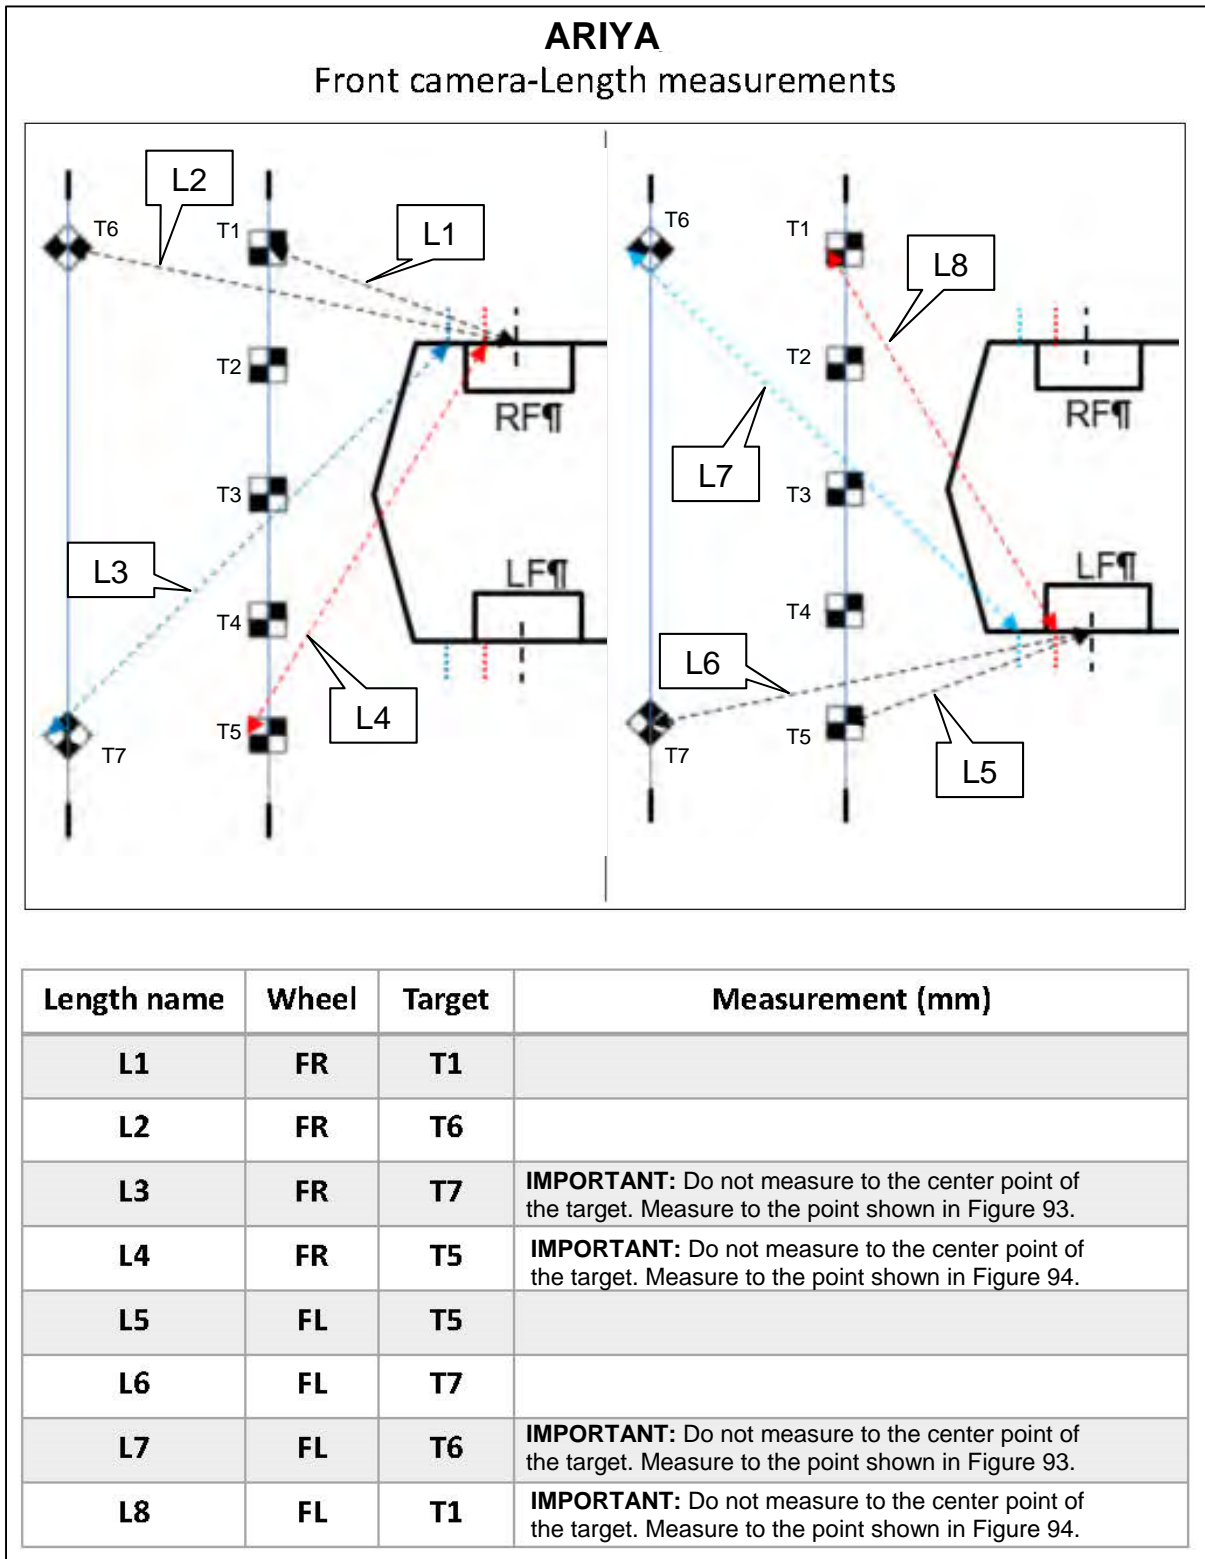
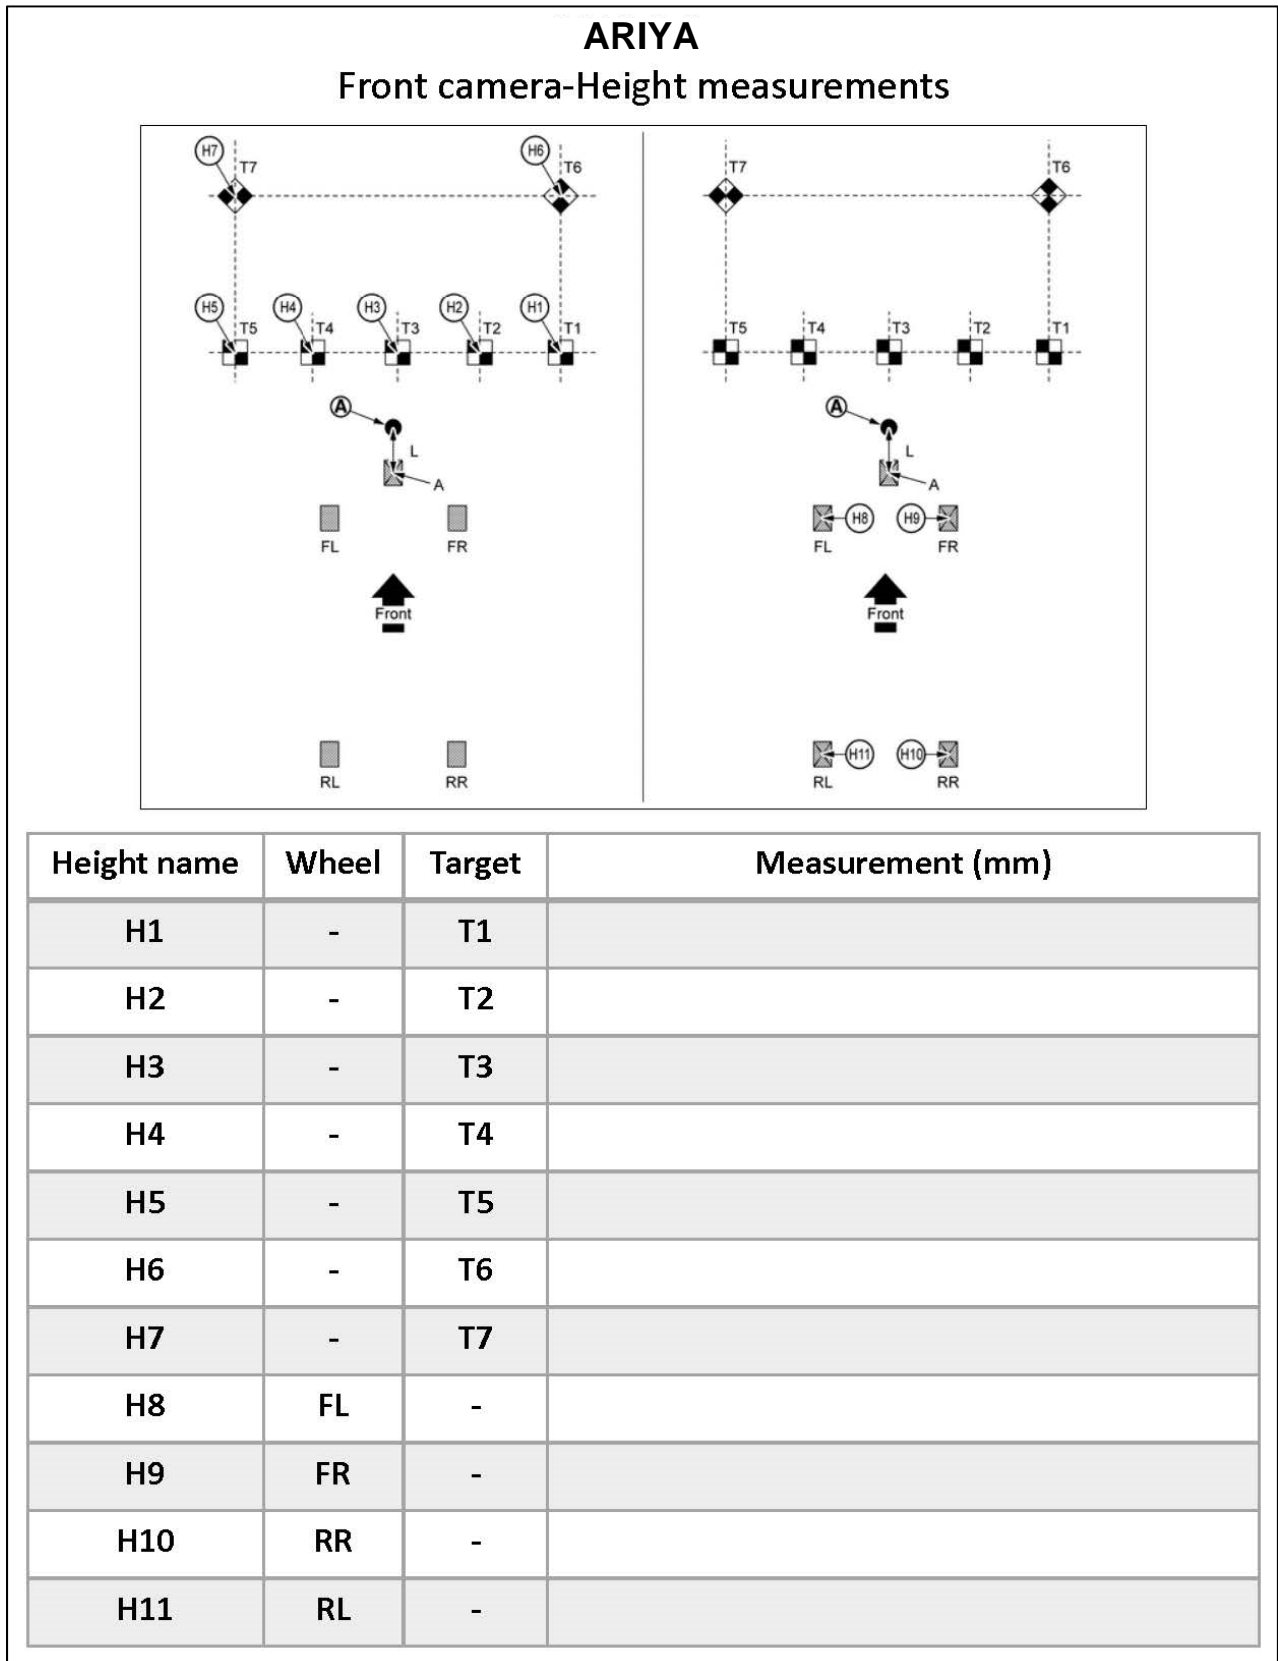

Figure 113
Figure 114
IMPORTANT: All measurements must be in millimeters (mm). Refer to the illustrations in Figure 113 and Figure 114 to ensure the correct measurement is documented in the correct order and for each calibration target.
77. Refer to steps 73 - 75 on page 58 to set up the laser level to measure the height of the front camera, and then document the measurements in Figure 114.